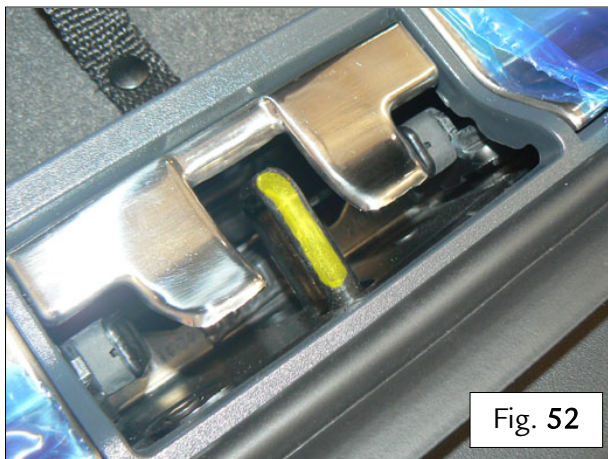

Fig. 52
- Mark the top edge of the hook with ink using a marker pen (Fig. 52);